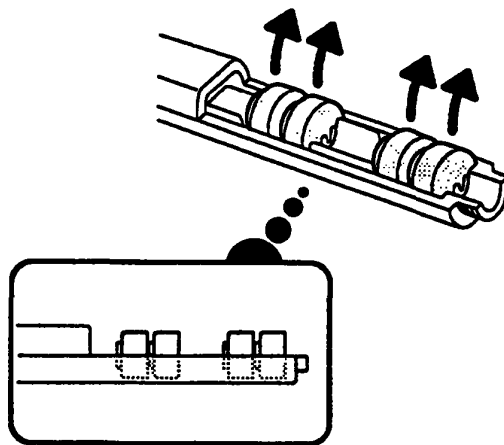

Figure 4-25 Removing the Batteries
- Lift out the batteries (Figure 4-25).
- Insert the new batteries*. Be sure the positive ends face towards the cap (Figure 4-25).